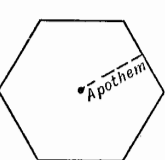

Fig. 55
49. The *Apothem* of a regular polygon is a line drawn from center to the middle of a side or in other words the radius of the inscribed circle. Fig. 55.